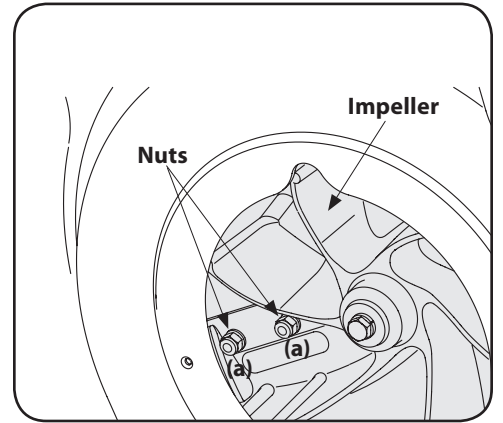

Figure 5-9
- The nuts (a) on the flat head cap screws can be reached from underneath using a 1/2-inch socket, universal, and extension. See Figure 5-9.